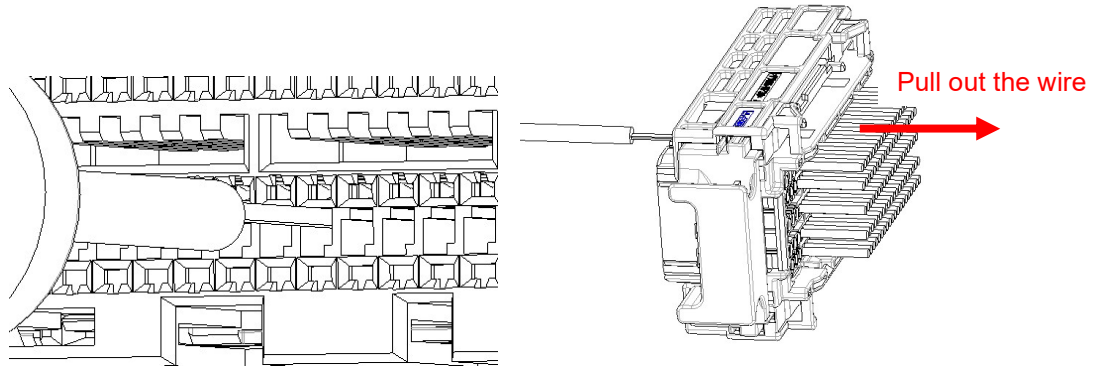

Fig. 12
- (1) Confirm TPAs are in Lock condition. In case of Lock condition, it's necessary to move it to unlock condition. (See Par.5.4.). It's impossible to extract contacts on lock state.
(2) Extract the contact with specified tool inserted into proper hole until stopped at bottom end. (see Fig. 12) (It makes operation easier to press the contact to insertion direction once.)